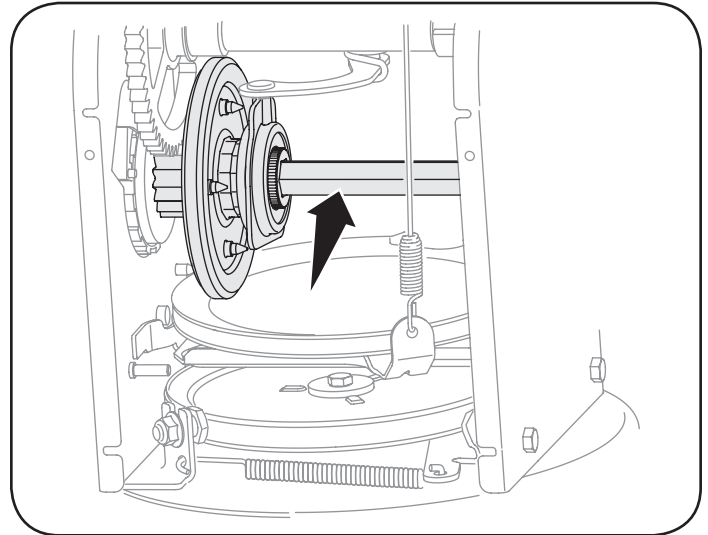

Figure 21
4. Apply a light coating of anti-seize to the hex shaft. See Figure 21.